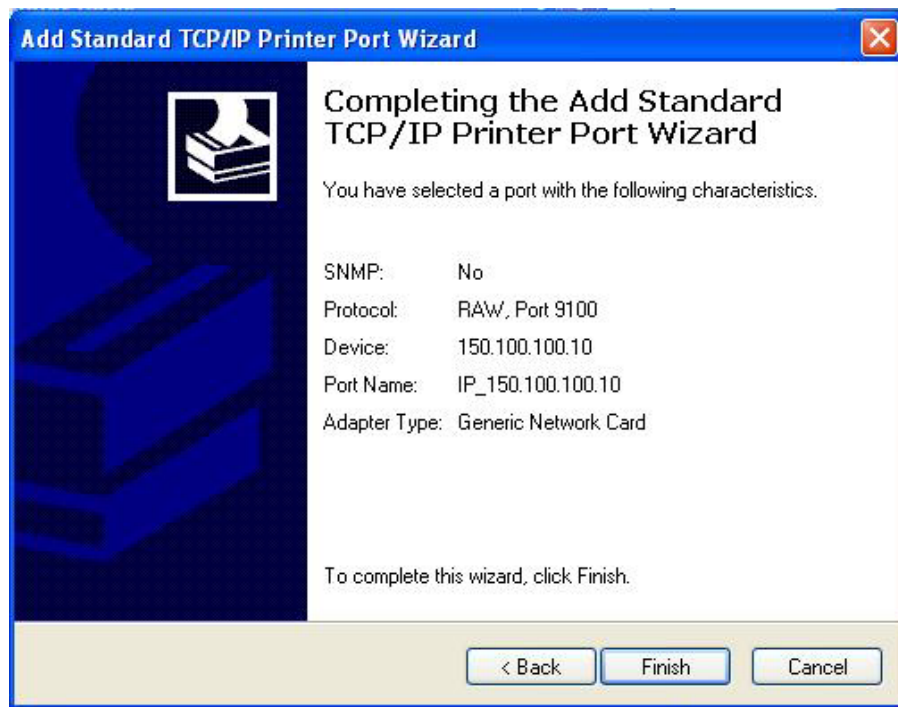

Figure 3-16, TCP/IP Wizard Exit Screen
7. Press the Finish button when the TCP/IP Wizard exit screen (Figure 3-16) appears.